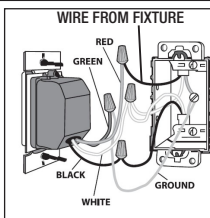

Figure 2
4. Connect red timer wire to fixture wire and secure with wire connector. (See Fig. 2)
10. Fit timer into junction box and install using two (2) mounting screws (furnished).